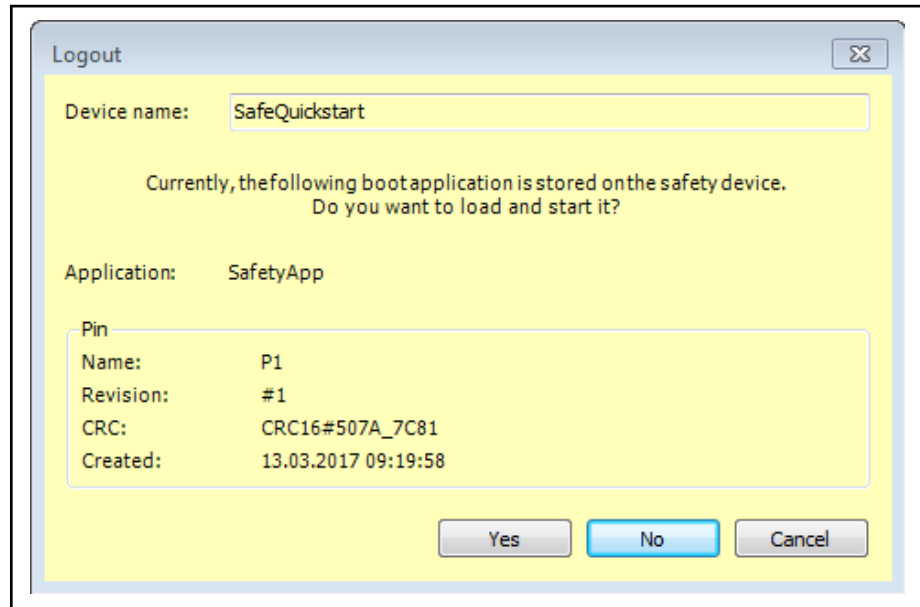

Fig. 8-5: Logging out in the case of differing boot application and download application
- A dialog box asks if the stored boot application should be loaded and started (see fig. 8-5 "Logging out in the case of differing boot application and download application" on page 122).